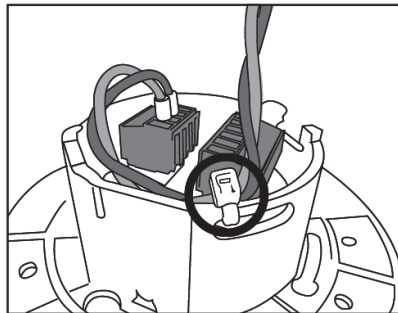

Figure 42: LDALI-MS2 strain relief.
- Use cable tie to ensure proper strain relief (see Figure 42).